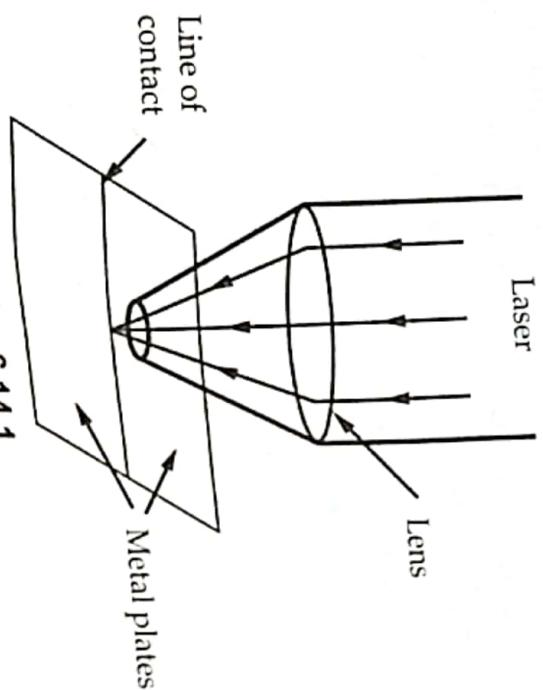

Fig. 6.14.1
- Welding** : The two metal plates to be welded are held in contact at their edges as shown in Fig. 6.14.1 and a high power laser is focussed on the line of contact. The metal at the line of contact melts and solidifies on cooling which causes the two plates to stick together. As the laser can be focussed to a very sharp point, the heat affected area is very small. Hence laser welding does not cause distortion of the plates. Also, it is a contact - less procedure. Hence there is no possibility of introducing impurities. Laser welding is commonly used in automobile, ship building and aircraft manufacturing industries. CO_2 and NdYAG lasers are used for this purpose.